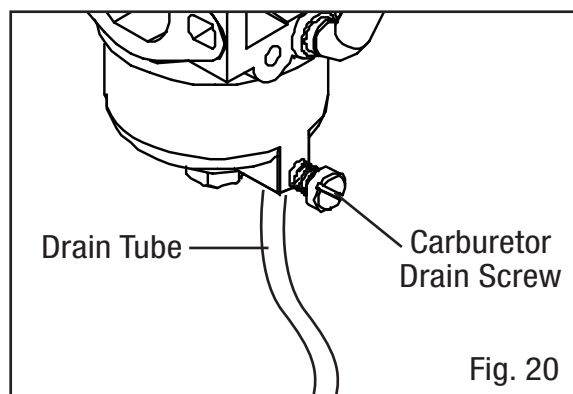

Fig. 20
4. The carburetor can be accessed between the engine and the air filter (Fig. 20). Locate the transparent tube from the carburetor (Fig. 21) that extends down through the base plate of the generator.